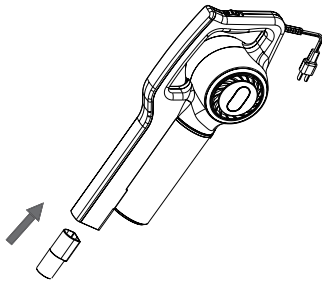

Fig.4
- ◆ Introduce the accessories (lance or multiuse brush) in the connector pipe. (Fig. 4)